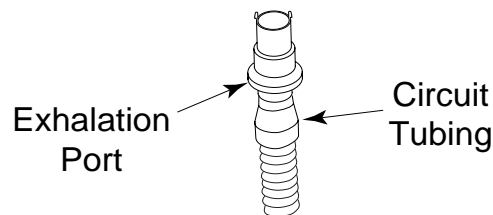

Figure 4-4 Connect the tubing to the Exhalation Port
STEP 2 Connect the open end of the circuit tubing to the exhalation port as shown in Figure 4-4. If you are using a mask that has the exhalation port built into the mask, connect the tubing directly to the mask and skip to Step 4.